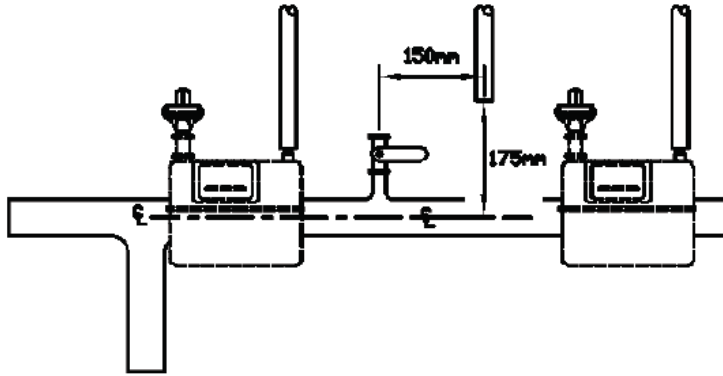

Fig.5 Installer to route pipe from premise / apartment to this point,
- Install gas pipe between the point of use in the premise / apartment and meter position. Each gas pipe must be run to a position, 150 mm offset to the right of the supply isolation valve of the meter to which it is to be attached , 175 mm above the centre line of the manifold and 160 mm offset forward of the manifold. (see Fig 5, 6 & 7).